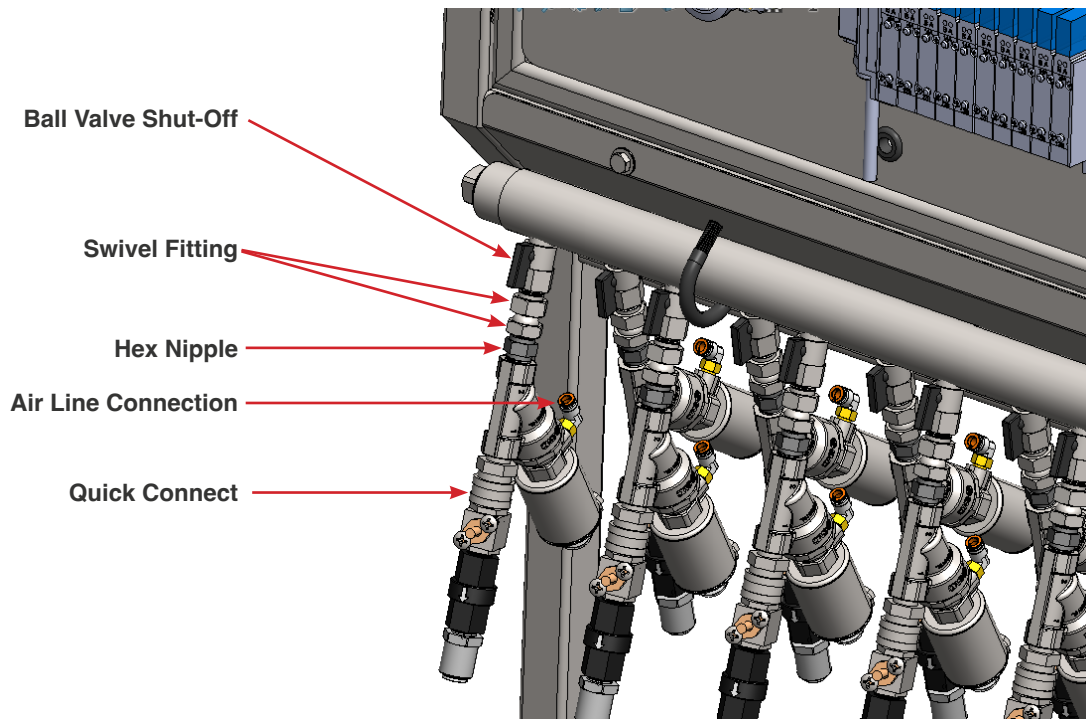

Fig. 7.2 - 1 - Process air valve replacement
2. Close the ball valve on the selected function (Fig. 7.2 - 1, following page).